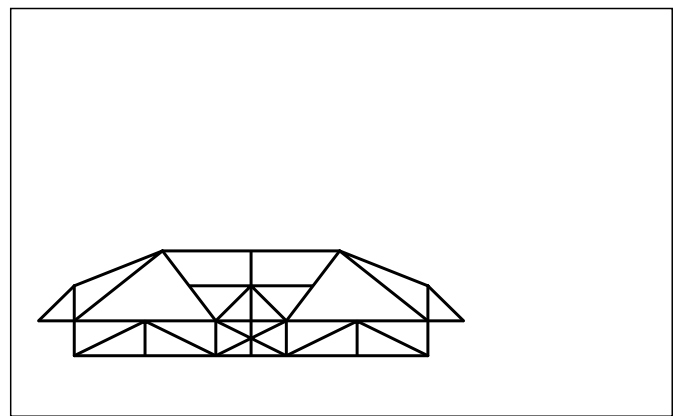

Figure 13 – Side view of the bridge drawn in bottom-left corner of grid sheet
1. On the large grid sheet provided, sketch the side view of the bridge to full scale. The side view is the one you would see if you were in a boat in the river and the bridge was in front of you (Figure 13).